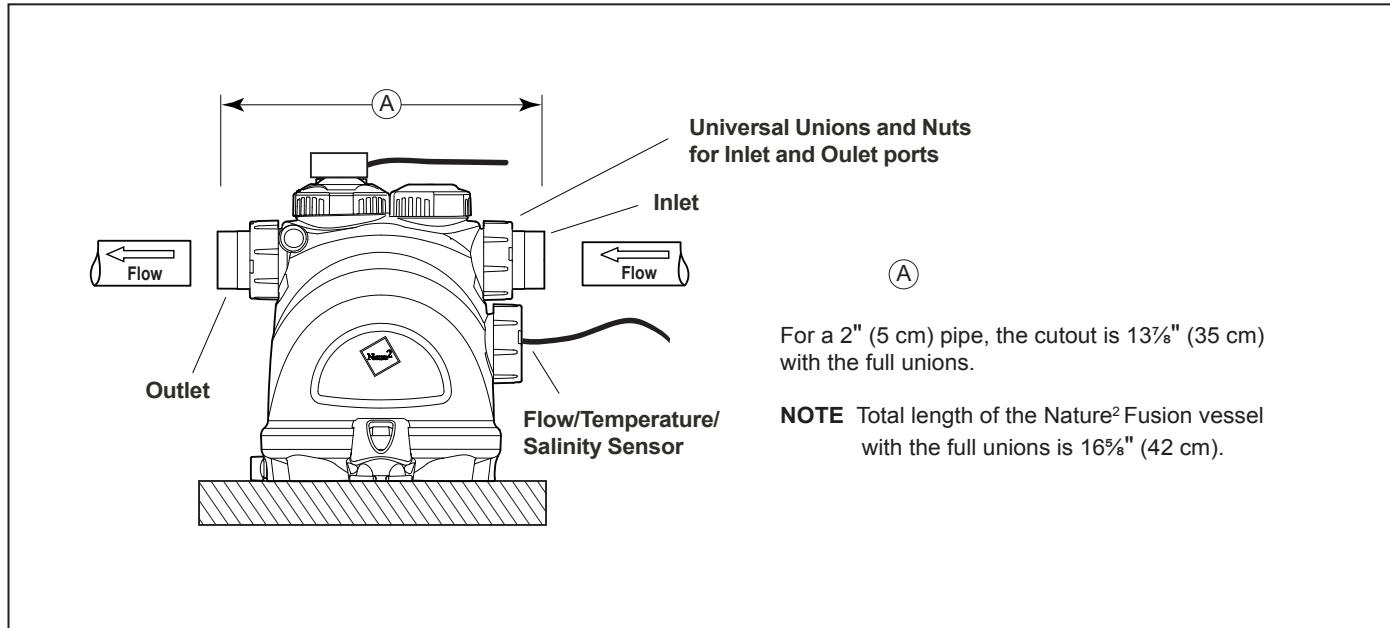

Figure 3. Pipe Cutout
4. Cut out a 13 $\frac{7}{8}$ " (35 cm) section of the 2" (5 cm) pipe to insert the vessel (see Figure 3).
4. Cut out a 13^{7/8}" (35 cm) section of the 2" (5 cm) pipe to insert the vessel (see Figure 3).